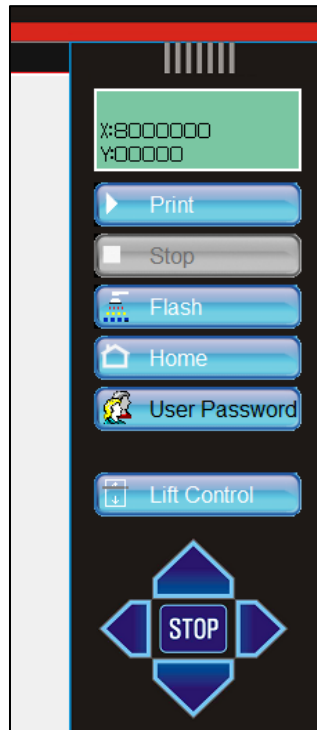

Figure 14: Flash Option
- Step 14** Press the Purging Button (Figure 14) and wait for a few seconds.